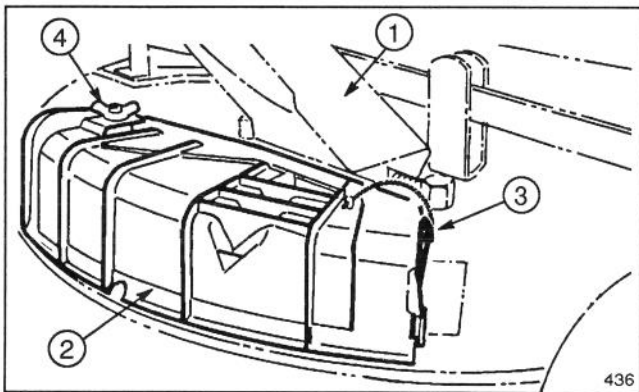

Figure 11
1. Lift grass deflector and slide plastic discharge cover into front hinge (Fig. 11).
2. Slide hinge pin through hinge (Fig. 11).
3. Secure cover to deck with wing nut (Fig. 11).
Never remove the grass deflector (Fig. 11) from the mower housing. If the discharge cover under the grass deflector is removed in order to side discharge or bag, the grass deflector routes discharged material down toward the turf. If the deflector is ever damaged, replace it. Without the deflector or complete grass catcher assembly mounted in place, discharged material could cause personal injury or blade contact could occur.